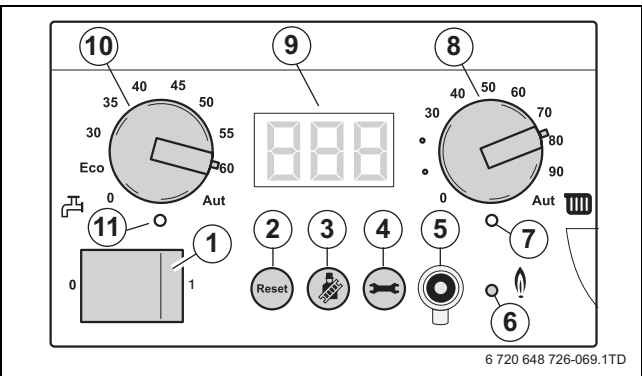

Fig. 69 BC10 basic controller
The "Burner" (On/Off) LED (→ fig. 69, [6]) lights up when the burner of the boiler is active and it is extinguished when the burner is switched off.
The "Heat demand" LED (→ fig. 69, [7]) lights up when the control system has made a heat demand and it is extinguished when this heat demand is no longer required.
The maximum CH (boiler) flow temperature (→ fig. 69, [8]) is used to set the upper CH (boiler) flow temperature limit. The unit is °C.
The heating system display values, display settings and display codes can be read out from the display (→ fig. 69, [9]). If a fault occurs the display will immediately show the accompanying fault code. The fault code display will flash if a locking fault is detected.
The "DHW mode" LED (→ fig. 69, [10]) lights up when a DHW request has occurred and it is extinguished when this DHW request is no longer required.
The DHW temperature dial (→ fig. 69, [11]) is used to select the required temperature of the hot water in the hot water cylinder. The unit is °C. See table 18, page 57.
You can navigate through the menu structure of the boiler on the BC10 using the "Reset" button, the "Chimney sweep" button, the "Service button" (→ fig. 69, items 2, 3 and 4) and the display (→ fig. 69, [9]) using table 9 to table 13.